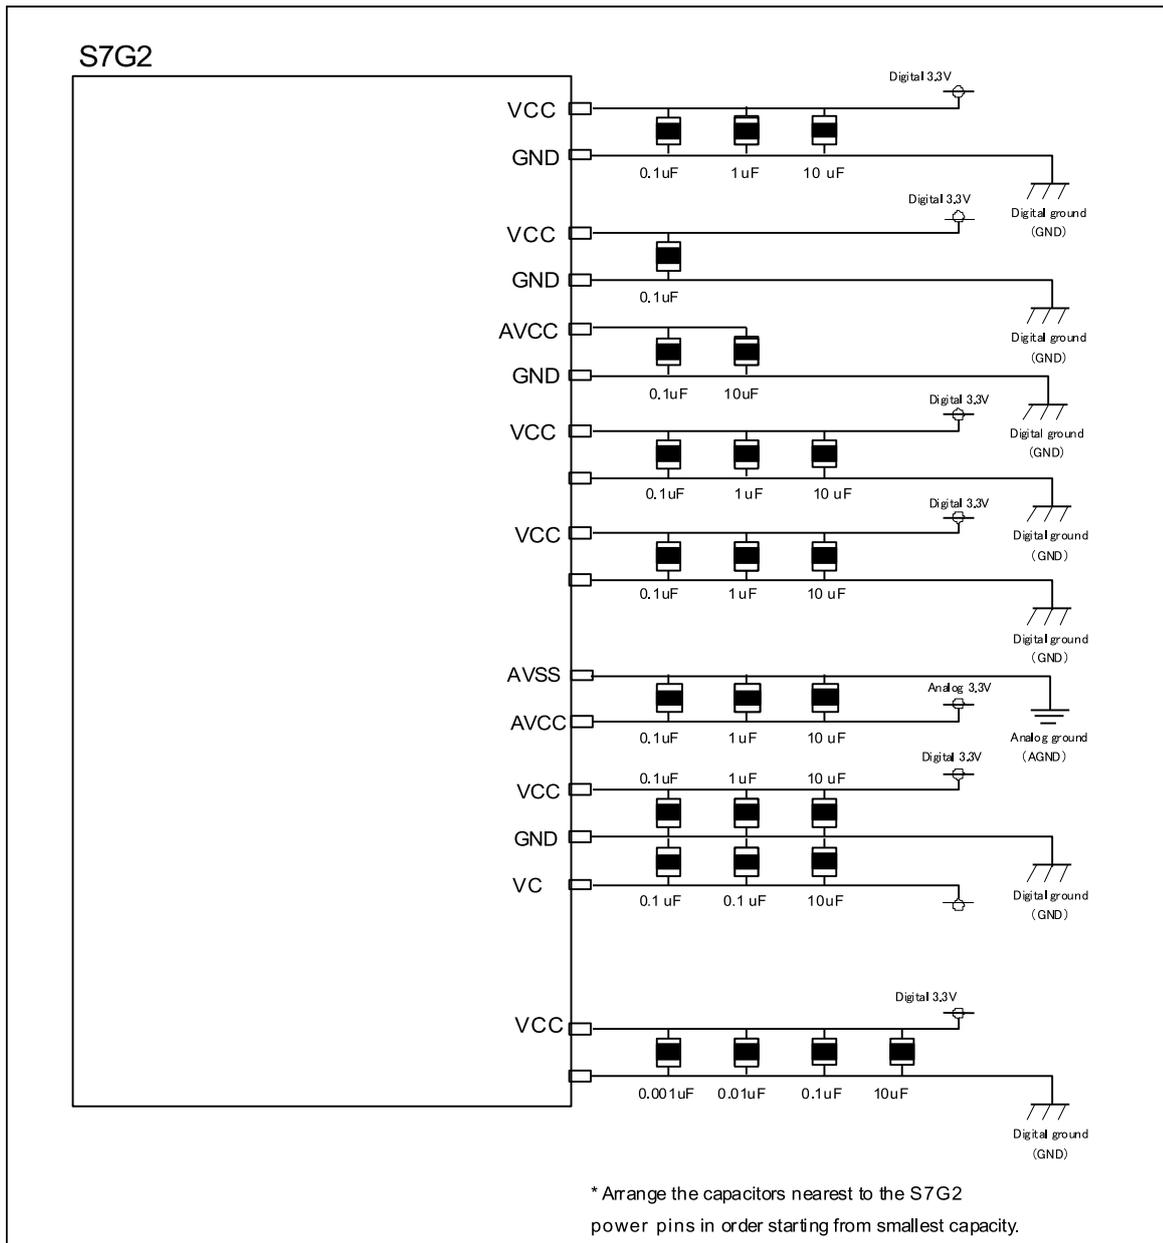

Figure 4 Example of Decoupling Capacitor Allocation
- It is recommended to place the capacitors for the S7G2 USB Power pins as close to possible to the S7G2, with the smallest capacity closest. Figure 4 shows an example of decoupling capacitor placement.